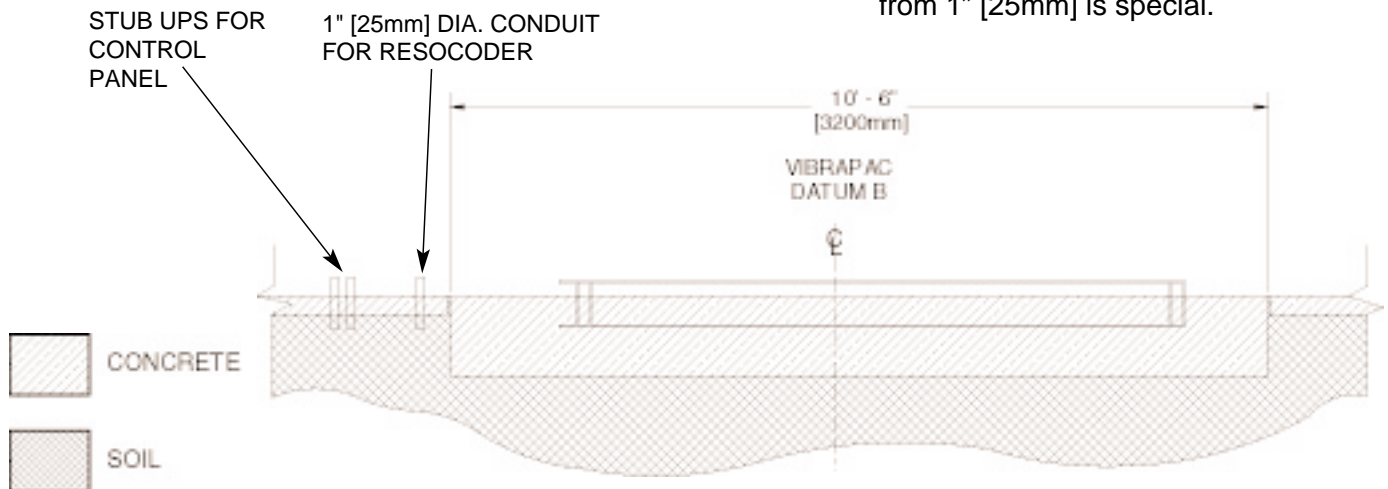

Figure 1.2 FRONT ELEVATION.
**IMPORTANT!** The centerline of the machine is not the same as the center of the concrete slab. The centerline of the block machine is offset to one side of the foundation (see figure 1.2).
**Note:** The centerline of the machine is **not** the same as the center of the concrete slab. The centerline of the block machine is offset to one side of the foundation as shown in figure 1.2.